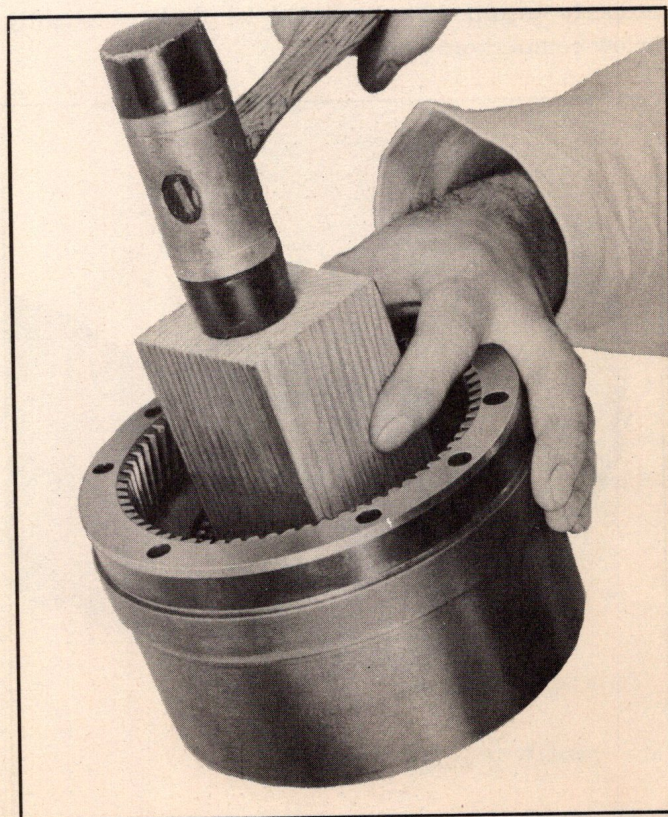

Fig. 250—Seating Clutch Drum Against Snap Ring
12. Tap front face of clutch drum using wood block and hammer to seat the clutch drum against the snap ring (Fig. 250).